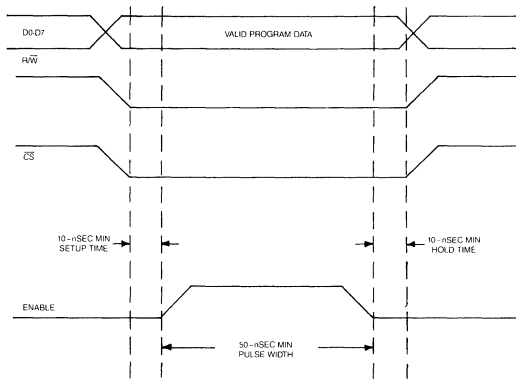

Figure 3. WRITE Command Timing
CS, R/W, A0, A1, A2 — Timing relationships between these signals and Enable are shown in Figures 3 and 4.
The order in which these signals are applied isn't important, as long as they conform to the timing constraints relating to Enable (E) shown in Figure 3.
- D. Activate the Enable (E) line. The Enable line performs the actual read operation. It is a positive pulse, at least 50 nsec wide.